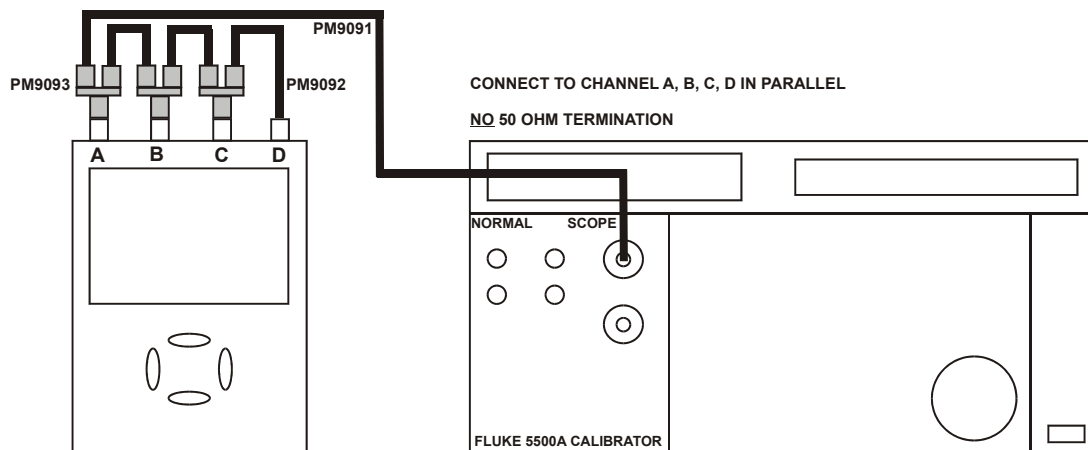

Figure 5-7. Test Tool Input ABCD to 5500A SCOPE Output
2. Connect the Test Tool to the 5500A as shown in Figure 5-7.